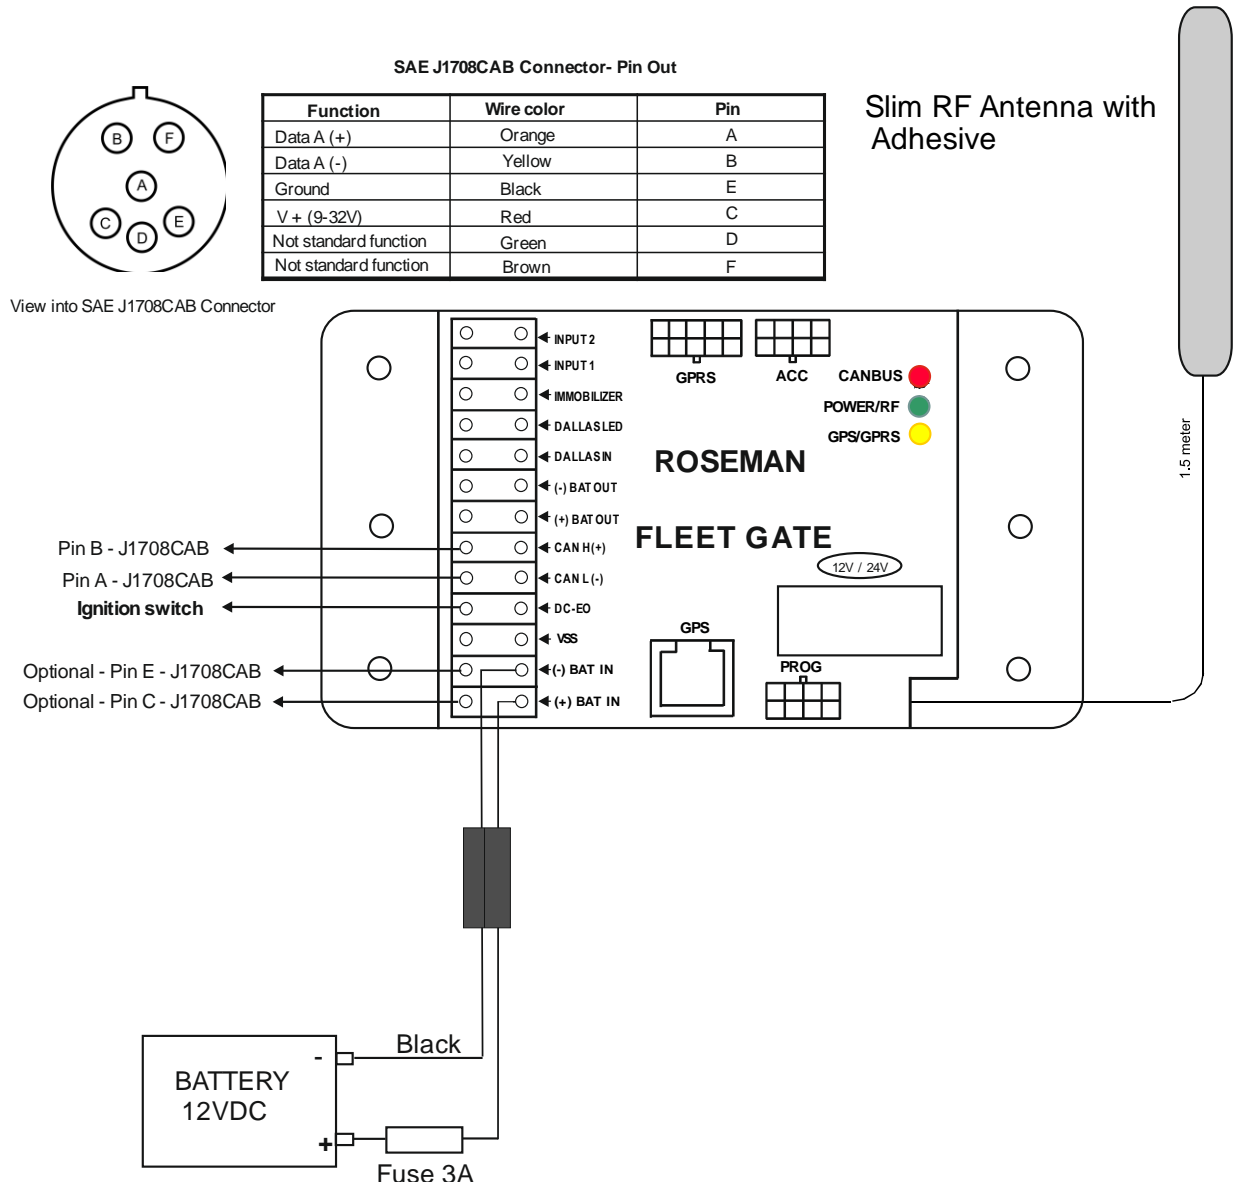

Figure 10: Wiring Diagram for FG3 to J1708CAB (6 pin) connector
1. Connect the USB cable from the programmer tool to your laptop (Refer to Figure10).